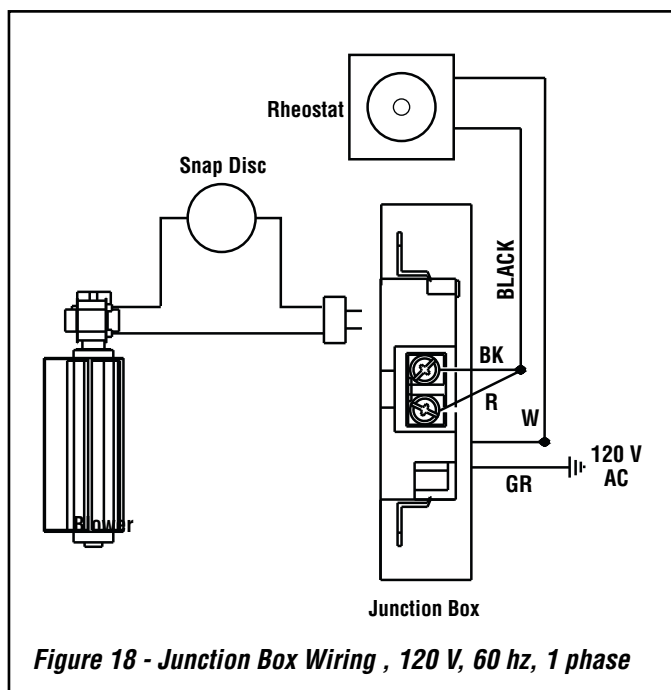

Figure 18 - Junction Box Wiring , 120 V, 60 Hz, 1 phase
4. Connect the black power supply wire to the power outlet red and black pigtails together. Connect the white power supply wire to the outlet common terminal (Figure 18).
5. Connect the ground supply wire to the pigtail lead attached to the outlet's green ground screw (Figure 18). Restrain the inlet power lead per NEC or local codes.